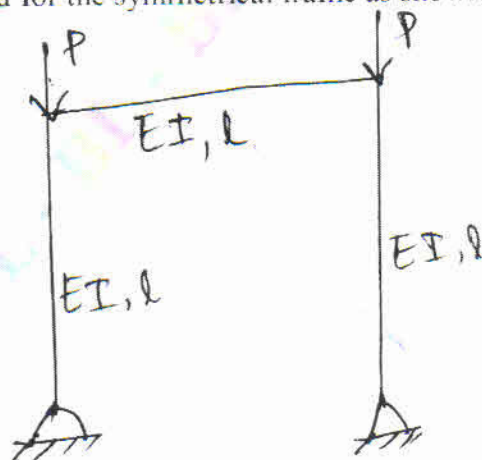

Fig.Q6
- 6 Determine the buckling load for the symmetrical frame as shown in Fig.Q6.